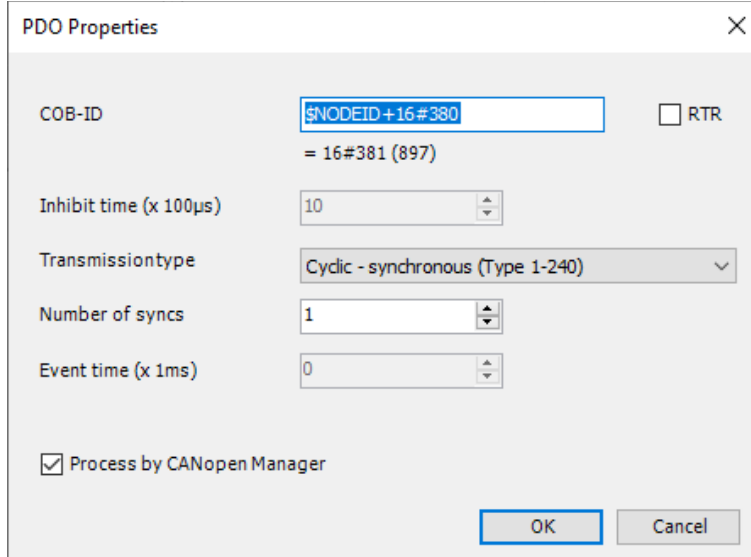

Figure 6-61 CANopen integration CODESYS | Set transmit PDO transmission type
- 4) Set the transmit PDO transmission type to «Cyclic - synchronous (Type 1-240)» (see →Figure 6-61).